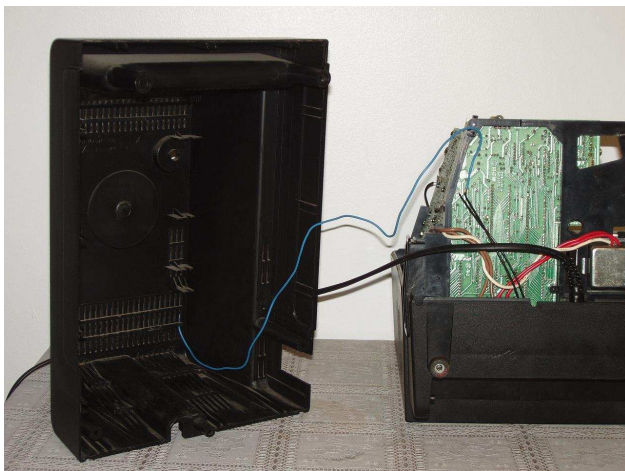

Fig. 3 Signal reset wire passed from VecDev cartridge through Vectrex rear cover and soldered to logic board.
(1) Take the reset signal wire and pass through one of the slots of the rear Vectrex Cover – see figure 3.